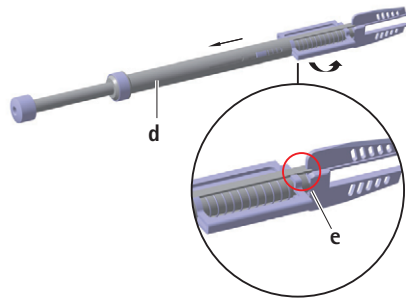

Fig. 3
- Position guideway **e** on cage **d** in the chisel bridge, see Fig. 3.